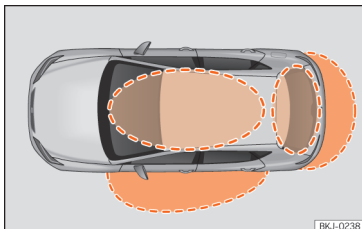
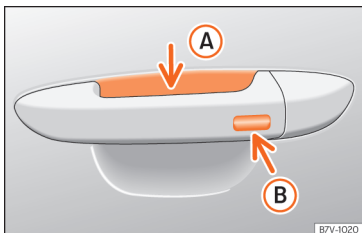

Fig. 94 Keyless Access: proximity zones.
Fig. 95 Door handle: sensor surfaces
»» Fig. 95
Keyless Access is a key-free locking and ignition system to unlock and lock the vehicle without actively using its key. To do this, all that is required is to have a valid vehicle key in the detection area where you are attempting to access the vehicle »» Fig. 94 and to touch one of the sensor surfaces on the door handles »» Fig. 95 »» **!**.
If a valid key is in the proximity of the car »» Fig. 94, the Keyless Access locking and starting system gives the key entry as soon as
- Grip the driver door handle. When you do this, you touch the sensor surface »» Fig. 95 (A) (arrow) of the handle and the vehicle unlocks.
- Touch (once) the locking sensor surface »» Fig. 95 (B) (arrow) on the driver's door handle. The door that is used must be closed.
- Touch (once) the sensor surface »» Fig. 95 (B) (arrow) on the driver's door handle. The vehicle locks with the “Safe” security system »» page 101. The door that is used must be closed.
- Touch (twice) the sensor surface »» Fig. 95 (B) (arrow) of the driver door handle to lock the vehicle without activating the “Safe” security system »» page 101.
When the vehicle is locked, the rear lid automatically unlocks on opening if there is a valid vehicle key in the proximity »» Fig. 94.
- Push the central locking button  on the remote control and touch the locking sensor surface of the driver door handle »» Fig. 95 (B) within the following 5 seconds. Do not grasp the door handle; otherwise the vehicle will not unlock. Deactivation is also possible if the vehicle is locked through the driver's door lock.
To close all the electric windows using the **comfort function**, keep a finger on the locking sensor surface »» Fig. 95 B (arrow) of the door handle for a few seconds until the windows have closed.
The sensor surfaces on the door handles could engage if hit with a water jet or high pressure steam if there is a valid vehicle key in the proximity. If at least one of the electric windows is open and the sensor surface »» Fig. 95 B (arrow) on one of the handles is activated continuously, all windows will close.